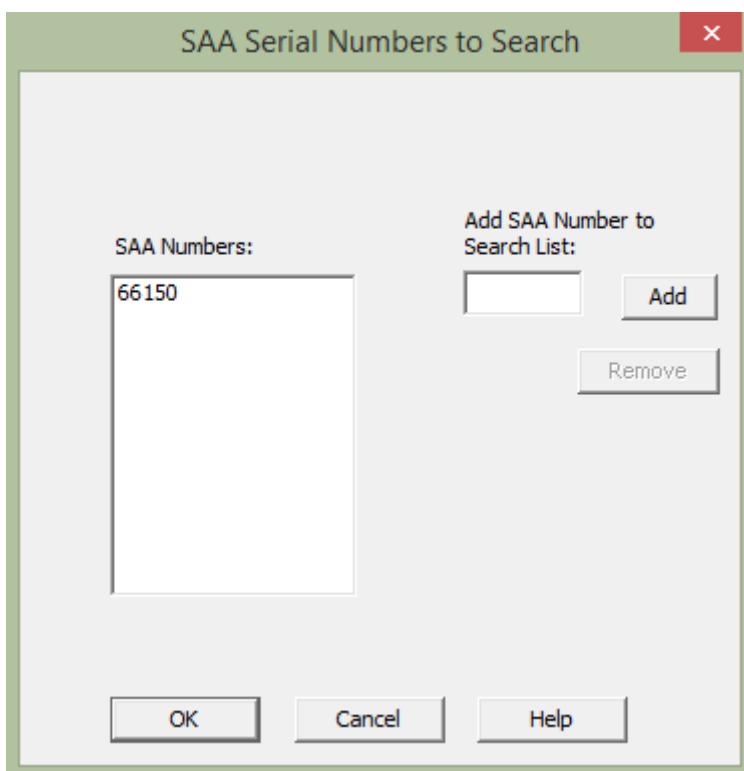

Figure 6.60: ‘SAA Serial Numbers to Search’ window.
- Opens the window in **Figure 6.60**.